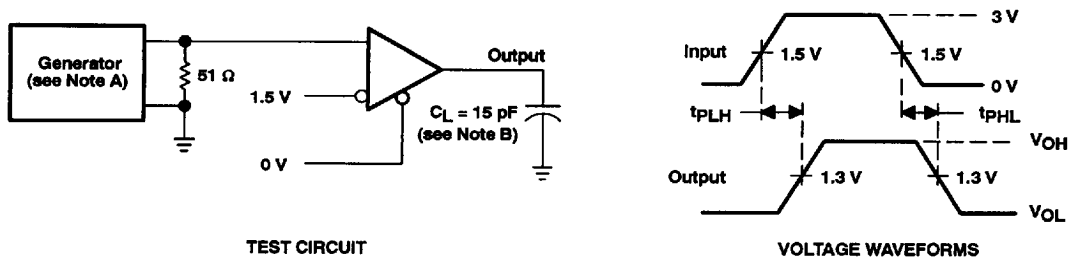

Figure 7. Receiver Propagation Delay Times
**switching characteristics over recommended ranges of supply voltage and operating free-air temperature,  $C_L = 15$  pF (unless otherwise noted) (see Figure 7)**